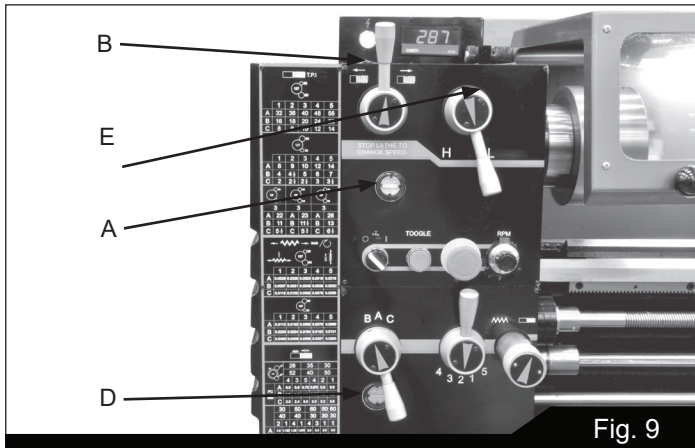
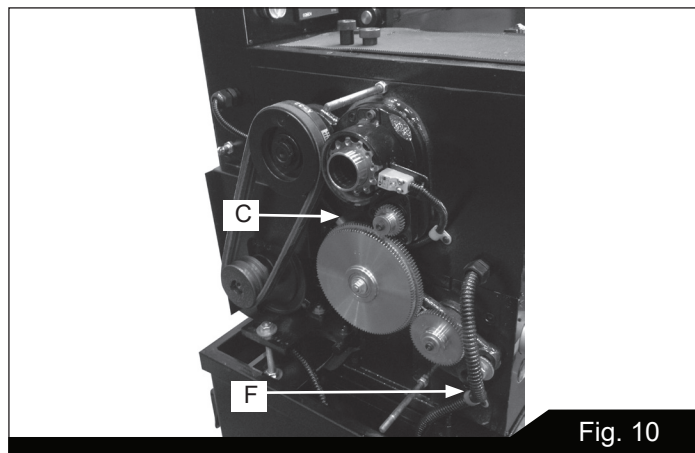

Fig. 9
Fig. 10
- Headstock – Oil must be up to indicator mark in oil sight glass on right side of headstock (A, Figure 9). Top off with SAE 20W oil. Fill by removing the rubber mat and unscrewing the plug (B) on top of headstock. To drain headstock, remove drain plug (C, Figure 10).
3. Gearbox – Oil must be up to indicator mark in oil sight glass (D, Figure 9). Top off with SAE 20W oil. To add oil to the gearbox, remove rubber mat and unscrew oil plug (E, Figure 9). To drain, remove drain plug from the pipe (F, Figure 10). Drain oil completely and refill after the first three months of operation. Then change oil in the gearbox every six months.